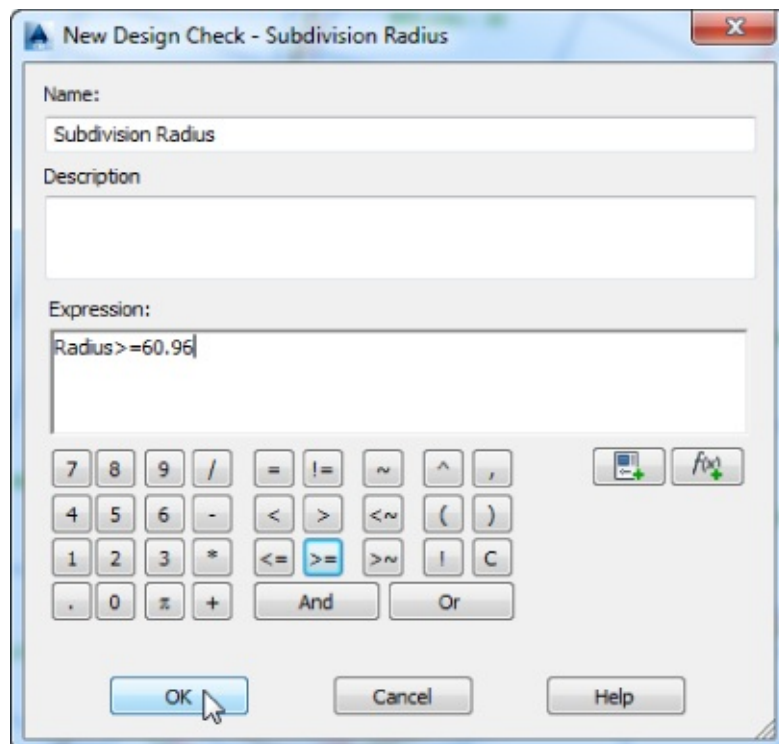

Figure 6.25 The completed Subdivision Radius design check
10. Click the greater-than/equals symbol (\geq) button, and then enter **200** (for metric, **60.96**) in the Expression field, as shown in Figure 6.25.